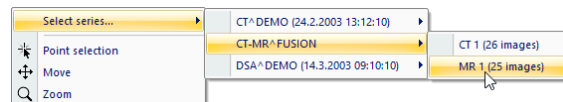

Figure 128 – Series selection using the context menu
2. Right-click to display its context menu (see Figure 128).